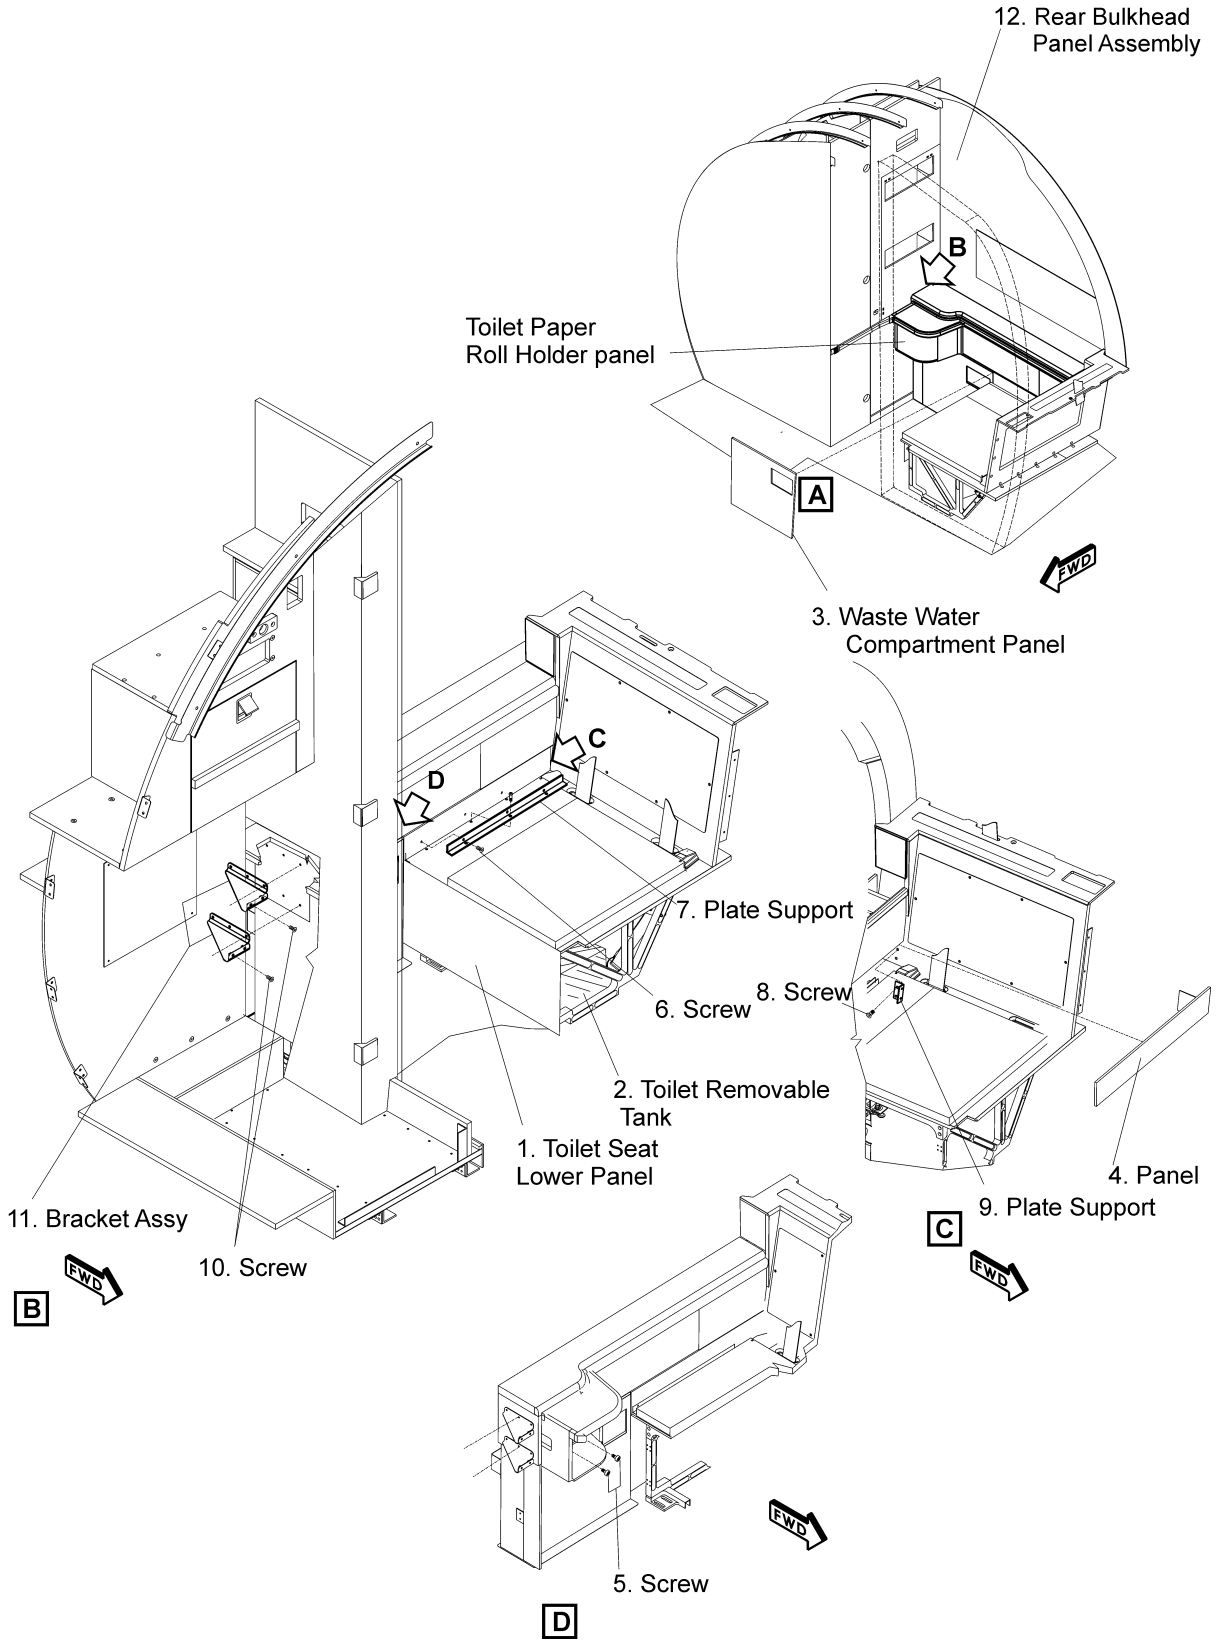
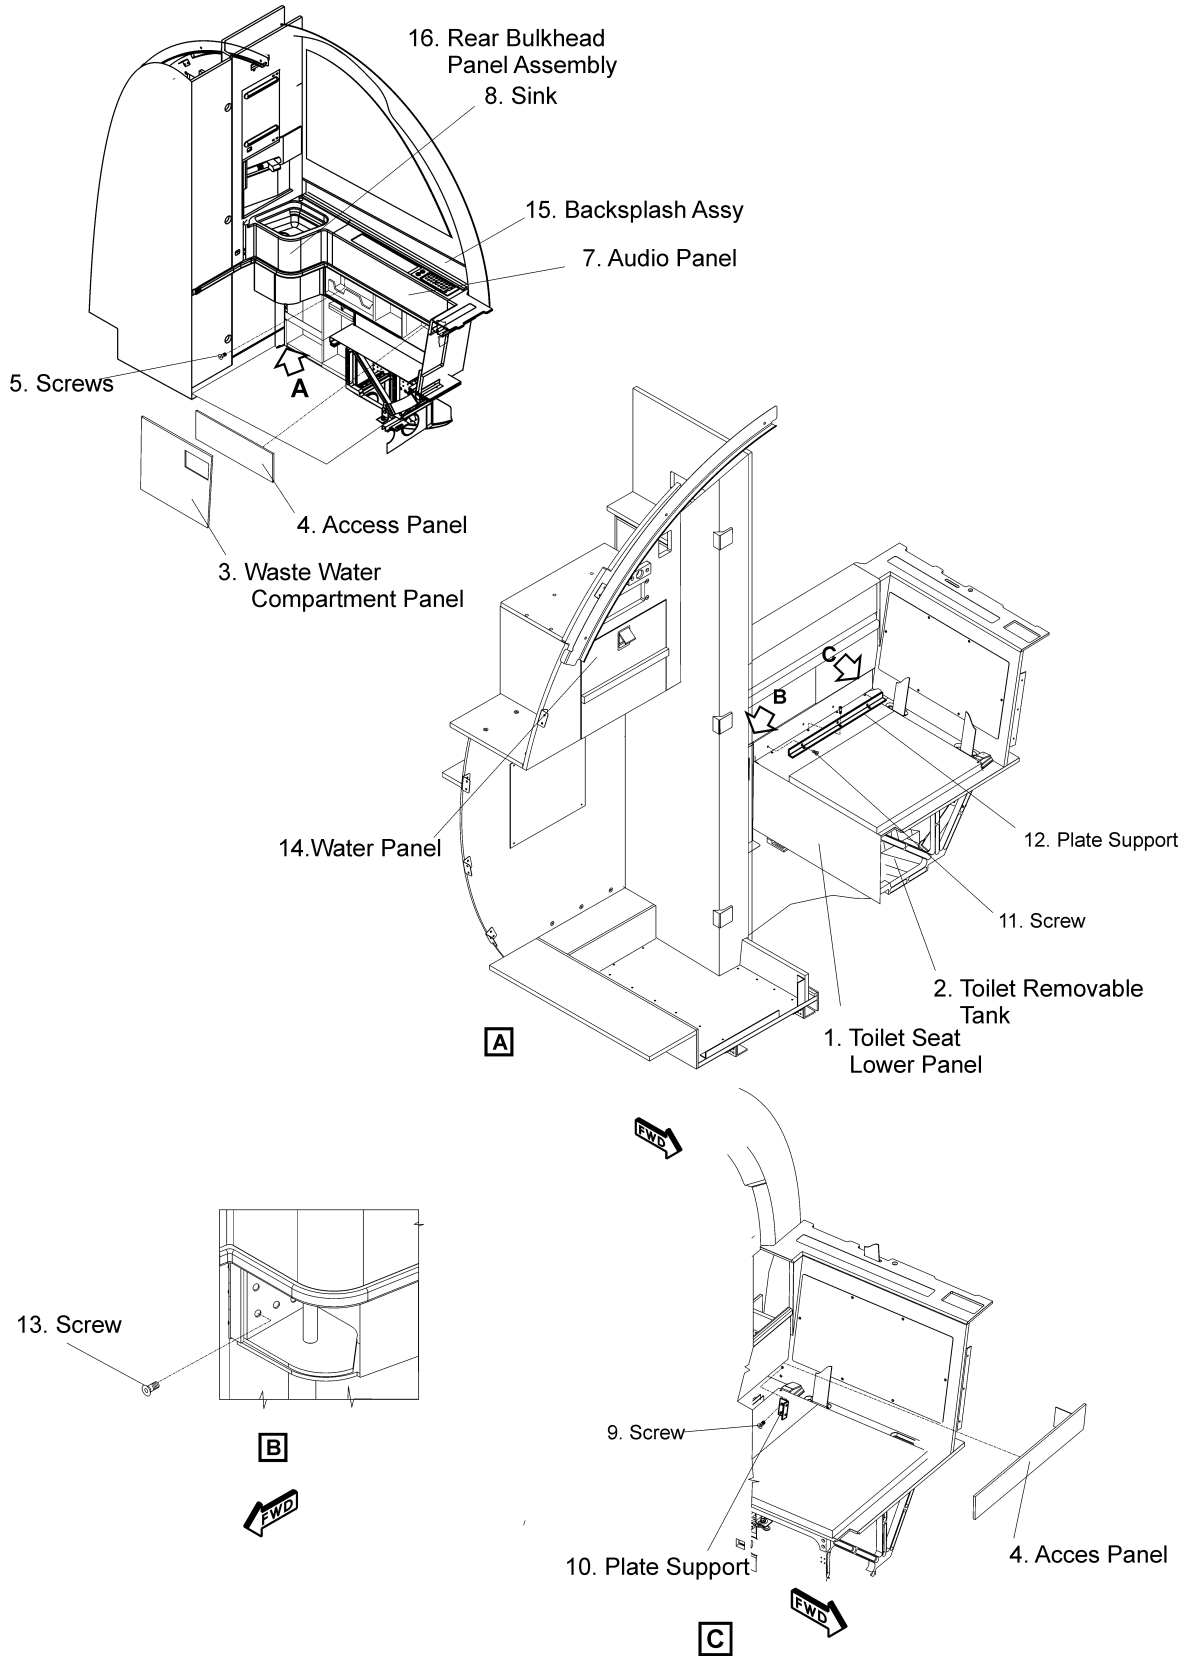

Fig. 218 - AFT Vanity Console (without Sink) (Options) - Removal / Installation
Fig. 219 - AFT Vanity Console (with Sink) (Options) - Removal / Installation
- (1) Put in position the Cabinet Assy Toilet Console without the Lid and install the five screws (4) and the five washers (6). Do not tighten the screws at this step.
- (2) Install the three screws (8) and the three washers (7) that connects the angle of the panel Assy (9) to the partition LH, AFT. Do not tighten the screws at this step.
- (3) Install the screw (2).
- (4) Make sure that Cabinet Assy Toilet Console is correctly positioned and tighten the screws.
- (5) Pull the seat belt trough the Cabinet Assy Toilet Console
- (6) Put in position the Lid and install the six screws (10).
- (7) Install the "AFT Vanity Console"
- (8) Install the Lavatory Sidewall Panel
- (9) Install the Louvers
- (10) Install the evaporator outlet duct..
28. AFT Vanity Console (OPTIONS) - Removal (Ref to Fig. 218 & Fig. 219)
- (1) To remove the AFT Vanity Console without the Sink Assy do as follow (Refer to Fig. 218):
- (b) Remove the Toilet Seat lower Panel (1)
- (c) Remove the Toilet Removable Tank (2).
- (d) Remove the Waste Water Compartment Panel (3) by pulling it away.
- (e) Through the Waste Water Compartment Panel get access to the removable panel (4) and remove it.
- (g) Remove the six screws (5)
- (h) Remove the three screws (6) that connect the Plate support (7) and the AFT Vanity Console.
- (i) Remove the two screws (8) and the Plate Support (9)
- (j) If necessary Open the Cabinet Assy Vanity Closet and get access to the screws that connect the Bracket Assy, remove the Six screws (10) and the two Bracket Assy (11)
- (k) Remove the Rear Bulkhead Panel Assembly (12)
- (2) To remove the AFT Vanity Console with the Sink Assy do as follow (Refer to Fig. 219):
- (e) Remove the Waste Water Compartment Panel (3) by pulling it away.
- (f) Through the Waste Water Compartment Panel get access to the removable panel (4) and remove it.
- (g) Open the door of the stowage compartment (5) and remove the screws (6) that connect the Audio Panel (7) and/or the Sink Assy (8) to the AFT Vanity Console.
- (i) Remove the two screws (9) and remove the plate support (10).
- (j) Remove the three screws (11) that connect the Plate support (12) and the AFT Vanity Console.
- (k) Remove the two screws (11) and the Plate Support (12).
- (m) Remove the six screws (13).
29. AFT Vanity Console (OPTIONS) - Installation (Ref to Fig. 218 & Fig. 219)